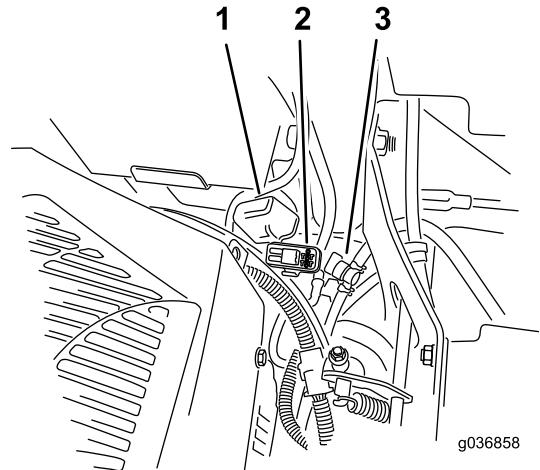

Figure 60
Note: For MyRide machines, ensure that the ground cable does not rub against the trailing arm or lower shock mount (Figure 60).
The fuses are located on the right console next to the seat (Figure 60).
2. Install a new fuse (Figure 60).